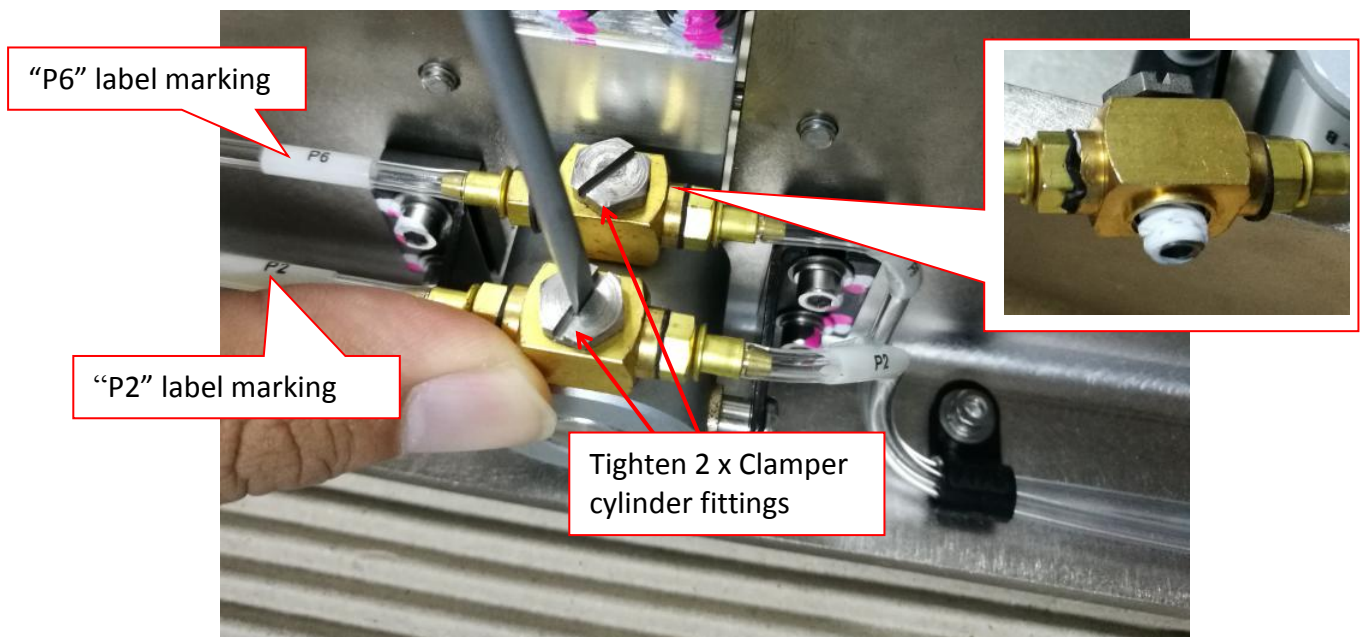

Figure 18 Clamper Cylinder Fittings Assembly
7. Apply Teflon tape at both Clamper Cylinder Fitting. Assemble Fittings at respective location by refer to "P6" & "P2" label marking. Tighten 2 x Clamper Fitting. May refer to below Figure 18